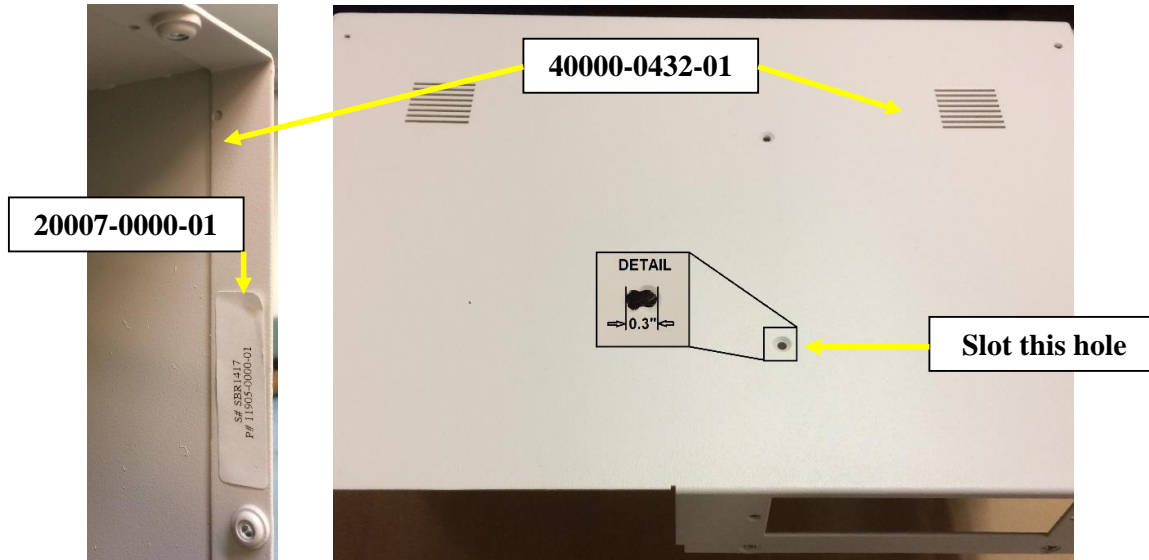

Figure 1
- 1.1. Attach the Serial Number Label (20007-0000-01) to the Main Chassis (40000-0432-01) as shown in Figure 1 (left).
- 1.2. Slot a hole of the Chassis (see detail of Figure 1 (right)) for a total width of 0.3".